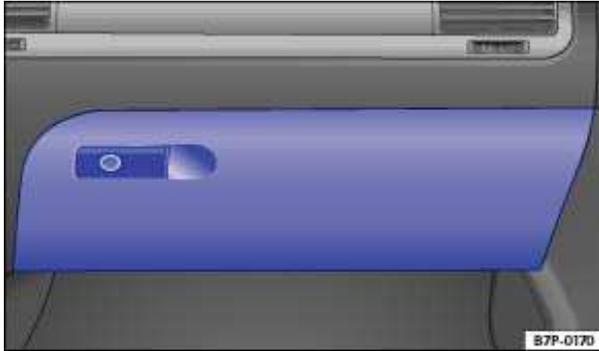

Fig. 114 On the passenger side: Glove compartment.
- To *open*, pull the handle ⇒ fig. 114.